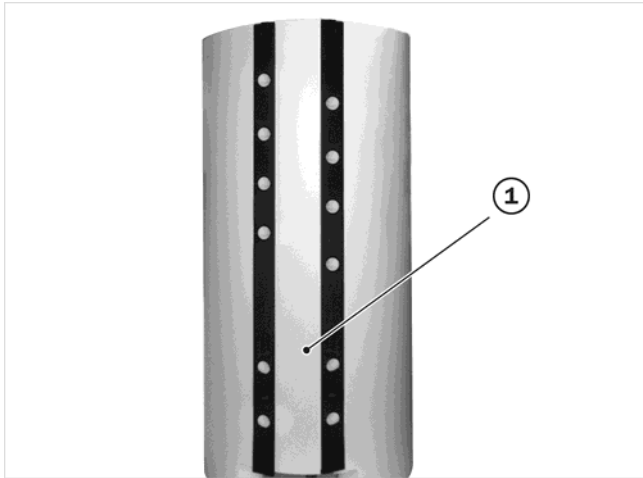

Fig. 7: Close the insulation at the front
3. Put a narrow insulation section between the connection rows (see → Fig. 7 (1)).